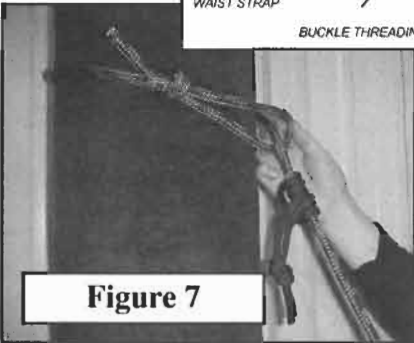

Figure 7
When attaching the safety rope to the tree, be sure the adjustable prussic hitch has been completely fed through the loop at the end of the safety rope as shown in **Figure 7**. Do this **BEFORE** you begin to climb with a climbing treestand.
2. Thread the knot end and the adjustable prussic hitch all the way through the loop end of the safety rope (See **Figure 7** again).